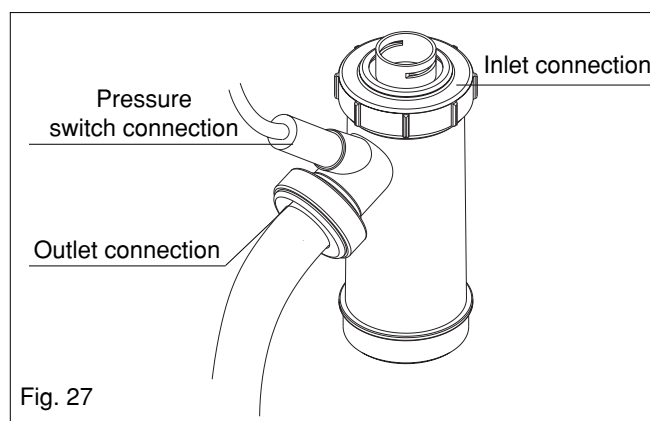

Fig. 27
6.19 CONDENSE TRAP (fig. 27)
The temperature of the hot water outlet can be adjusted directly as shown in section 5.7.4 or via the operating parameters (see section 5.10). The boiler is also fitted with a flow-rate restrictor (fig. 27) that limits the actual flow of hot water to the taps or outlets. This is to ensure that the boiler maintains a reasonable outlet temperature even if the tap or outlet is fully open.